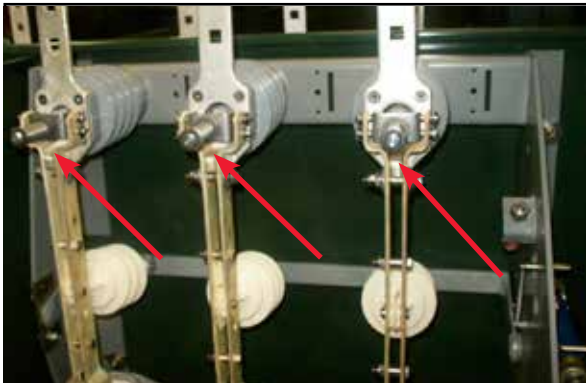

Figure 1. Lubricate only the interface between the main-contact stab and the switch blade marked by arrows.
1. On the switch main-contact stab. See Figure 1.